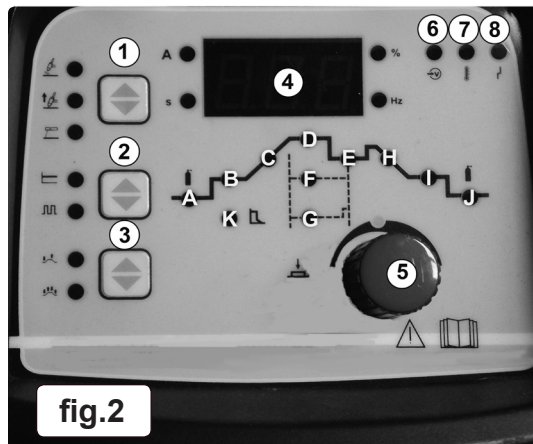

fig.2
Key to fig.2:
- 4.5.2. The pre-flow time (fig.2.A), welding current (fig.2.D) and gas delay time indicator (fig.2.J) may be adjusted in this mode.
- 4.6.2. The pre-flow time (fig.2.A), pulse peak current (fig.2.D), pulse width (fig.2.F), pulse frequency (fig.2.G), pulse background current (fig.2.G) and gas delay time (fig.2.J) may all be adjusted in this mode.